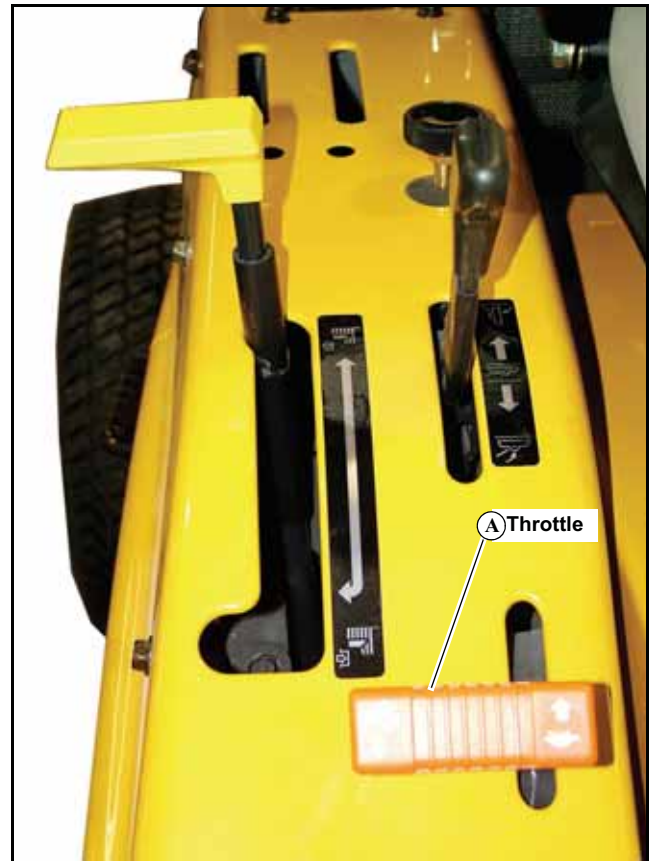

Figure 3-4
- A. Throttle control (Figure 3-4)** — A cable is linked to engine throttle for controlling engine speed. Move lever forward to increase engine rpm, move lever rearward to decrease engine rpm. **NOTE:** Always operate the mower deck or attachment at full engine RPM.